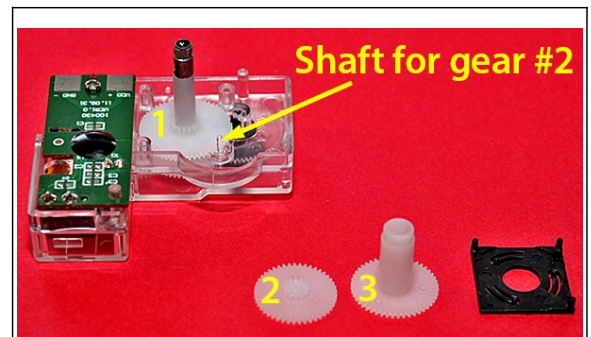
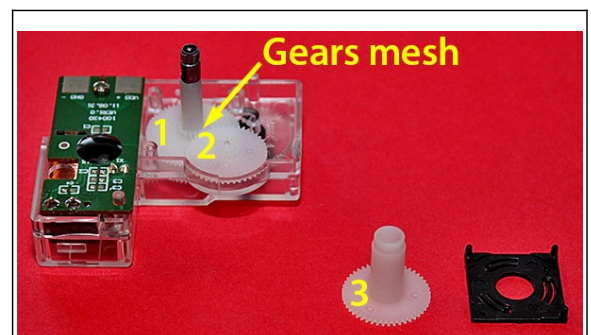

Fig. 48: Gear #1 in place.
Fig. 49: Gear #2 in place.
- **Gear #1.** Place gear #1 with the threaded metal top shaft over the tall thin spindle in the movement housing (Fig. 48).
- **Gear #2.** Place gear #2 onto the tiny clear plastic shaft protruding from the housing, shown in Fig. 48. The large-diameter gear should be on the bottom, and it should mesh with the small gear on top of gear #1. See Fig. 49.